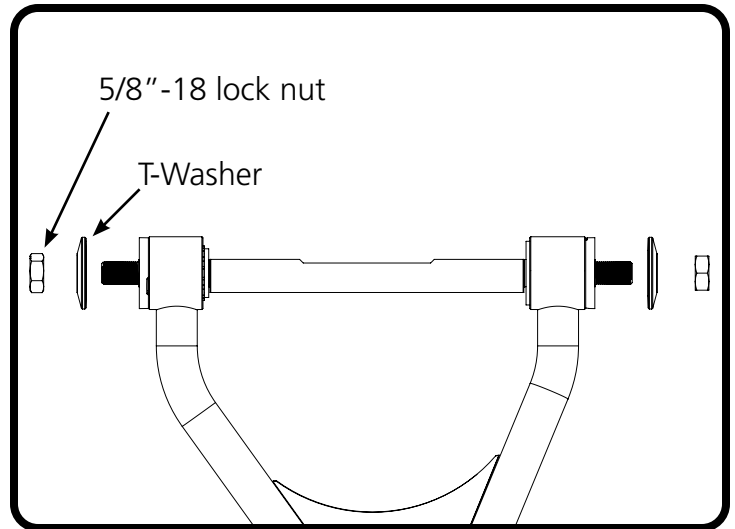

Figure 3
6. Install a T-Washer and 5/8"-18 lock nut on each end of the cross shaft (Figure 3).